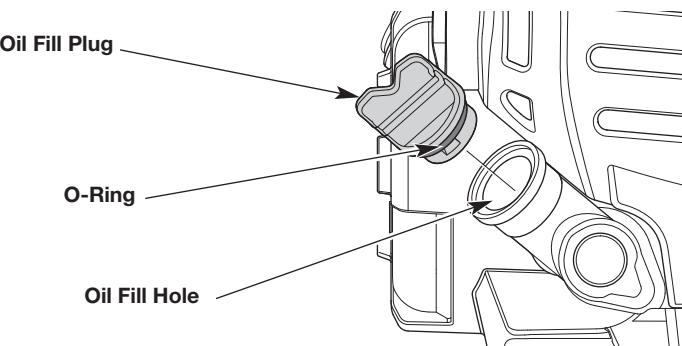

Fig. 8
4. Unscrew the oil fill plug (Fig. 8).
5. Pour the entire bottle into the oil fill hole (Fig. 8). **DO NOT** overfill. Refer to *Checking the Oil Level*.
NOTE: Make sure the O-ring is in place on the oil fill plug (Fig. 8).